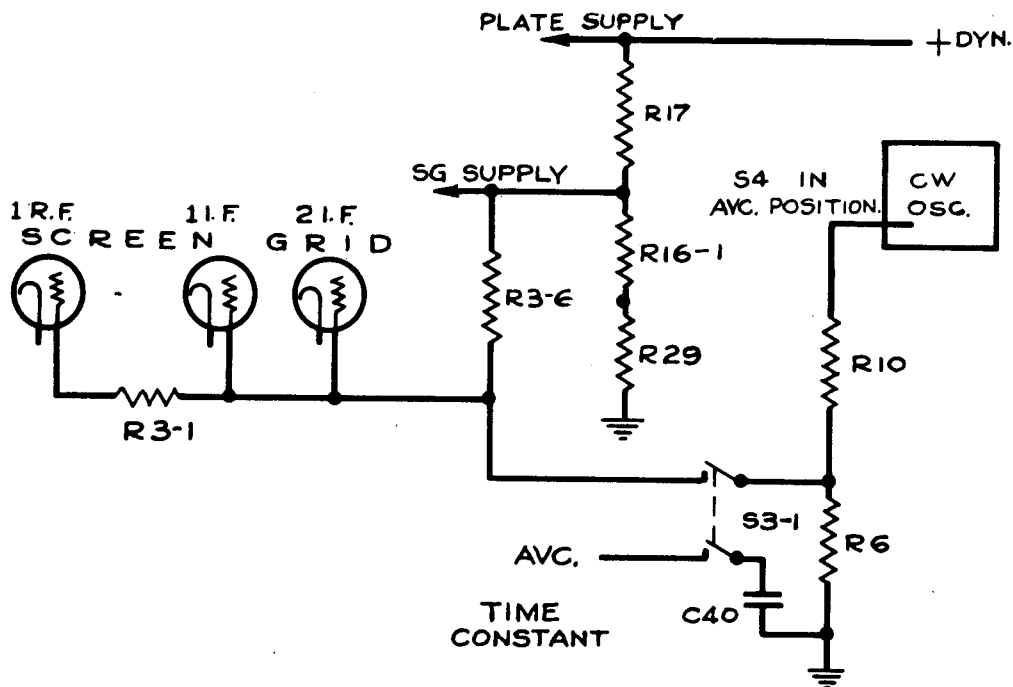

Fig. 10 - C-W. Oscillator Switching
b. The c-w. oscillator switch S3-1 in the "ON" position supplies the oscillator plate voltage and increases the AVC time constant by connecting the additional capacitor C40. In order that the overall noise level may be maintained essentially constant with the c-w. oscillator switched on or off, the circuit arrangement simplified in Figure 10 is employed. Switch S3-1 supplies the oscillator plate voltage by connection to the screen grids of the first and second i-f. tubes. The same switching connects the loading resistor R6 which drops the screen voltage to the first and second i-f. and first r-f. tubes to a value that reduces the sensitivity by an amount sufficient to keep the overall set noise essentially constant. This arrangement for supplying the c-w. oscillator has added advantages which are not obvious.
In order to have sufficient oscillator excitation available to handle high detector levels encountered with AVC operation and strong signal inputs, while still keeping the no signal c-w. excitation below the AVC delay level, it is desirable to have the c-w. oscillator output increase as a strong signal input raises the AVC bias. This circuit arrangement, as shown in Figure 10, accomplishes this result, since with switch S4 in the AVC position, R16-1, R17, and R29 form a fixed bleeder supplying the screen grid voltage to r-f., 1st. detector and i-f. tubes. A strong input signal building up the AVC bias causes a considerable decrease in screen current and hence an increase in the screen supply voltage. This increases the voltage supplied to the c-w. oscillator and hence the excitation increases in proportion to signal level at the detector.